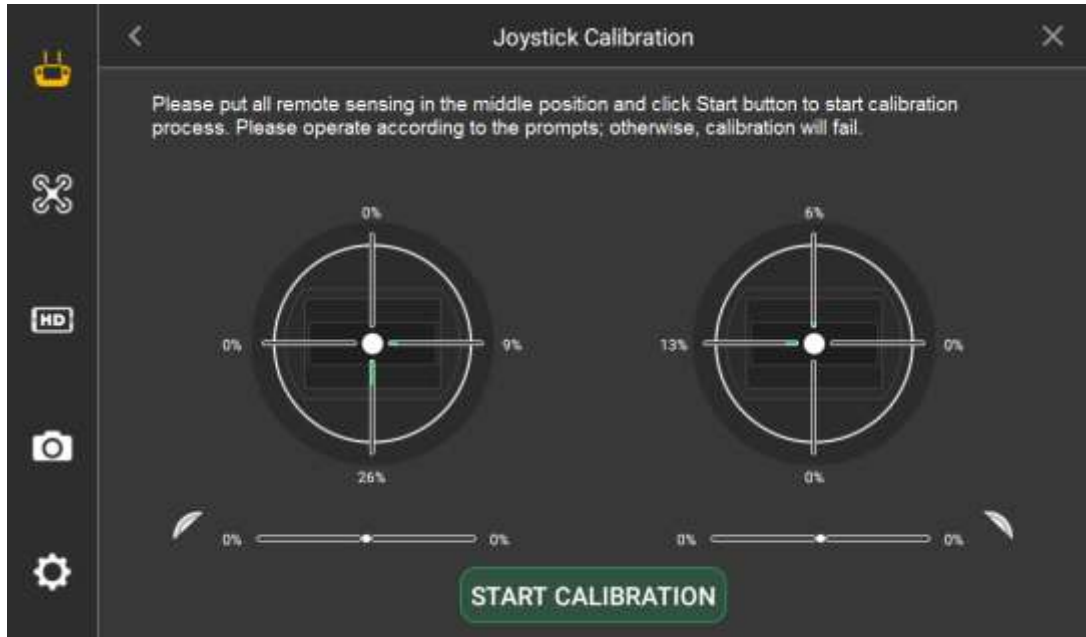

Figure 3-31
Step 1 Select "Settings > Remote Control Settings> Remote Calibration" to enter the remote calibration interface, as shown in Figure 3-31.